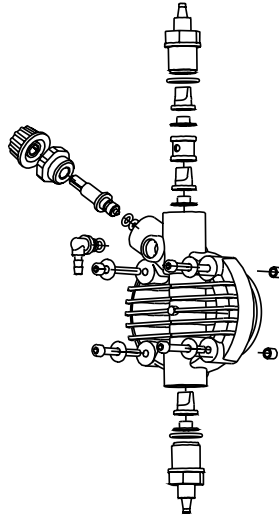

Fig. 10
- the additive concentration in the pipework; a reduction of this concentration could be caused by the wearing of the valves, in which case they need to be replaced (Fig. 10) or by the clogging of the filter which then has to be cleaned as in point 3 here below.
This operation can also be done with the pump disconnected from the plant by turning the pump upside-down for 15 to 30 seconds and without connecting the hose to the nipples; if impossible, dismount and remount the pump head (Fig. 10) using the four mounting screws.
Very rarely there may be losses caused by the breakage of the membrane, or by the membrane seals in which case they have to be replaced by disassembling the four screws of the pump head (fig. 10), when re-mounting the pump head ensure that the screws are replaced properly, along with "O" ring.
❶ THE METERING PUMP GIVES PULSES BUT THE ADDITIVE IS NOT INJECTED
- a. Dismount the suction and discharge valves, clean them and replace, see position (fig. 10). Should the valves be swollen, check valves material against our chemical resistance compatibility chart and fit correct valves. Standard valves are Viton. Upon request ball check valve, can be supplied.